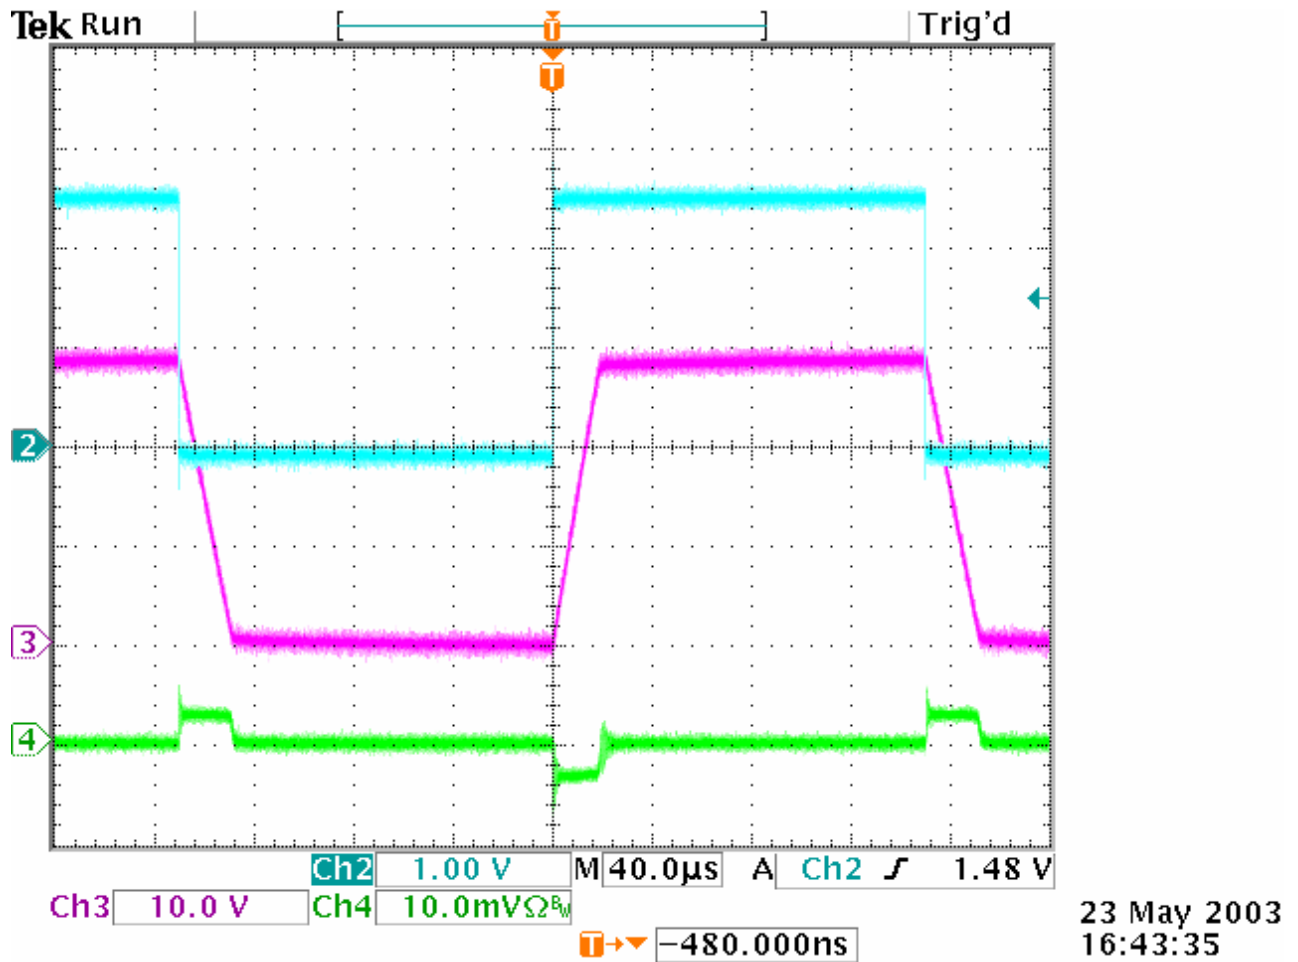

Figure 3. Ch2: Vinut. Ch3: Vout. Ch4: Iout, 100mA/Div
7. Apply $V_{IN} = 5V$ and pulsed square wave input that swings from 0.1V to 2.8V and has period of 300 μs to V_{input} , and apply 27nF capacitor load to the output. Verify V_{OUT} and I_{out} as shown in Figure 3.